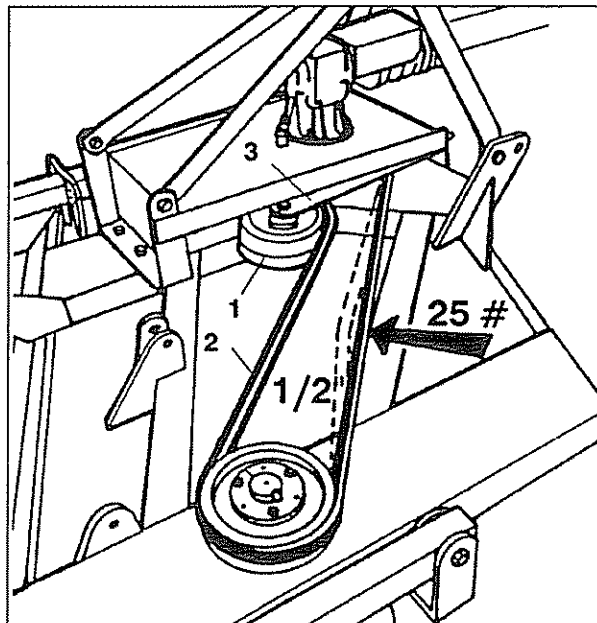

FIGURE 30
Remove wings nut and remove belt shield (not shown). Remove nut and push idler pulley (1) out of the way. Install belt (2) in matching grooves in pulleys. Pull idler against belt, insert adjusting bolt through hole in adjusting anchor, install nut and adjust as shown in figure 30.
Remove wing nuts and remove belt shield (not shown). Turn adjusting nut on Idler Pivot (3) clockwise to tighten belt (2) and CCW to loosen belt. Tighten nut until a 25 lb. force will cause approximately 1/2" deflection as shown in figure 30.